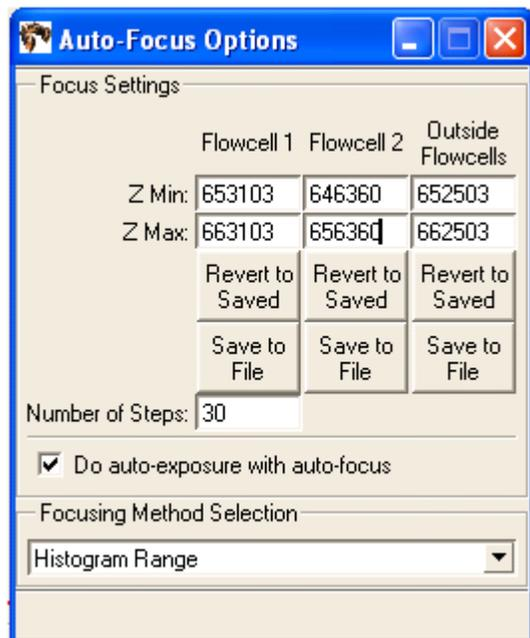

Figure 82 Enter the focus settings.
10. Subtract 5000 counts from the calculated average, then enter that value in the Z Min box. Add 5000 counts to the average, then enter that value into the Z Max box. Confirm that the Number of Steps is 30. Click **Save to File** (see Figure 82).